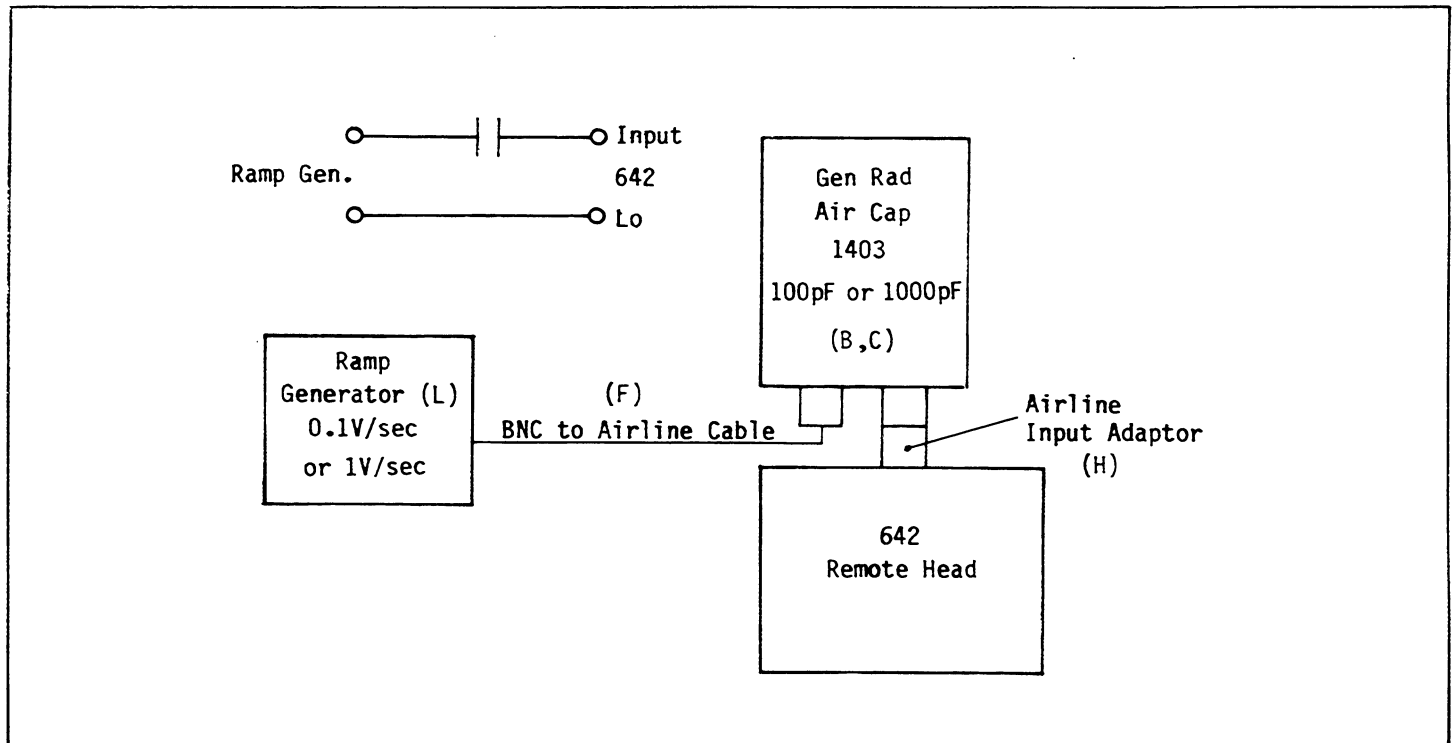

FIGURE 6-2. 10-9, 10-10, and 10-11A Current Sources Circuitry
b. Figure 6-2 shows how the ramp generator and capacitors should be connected to the 642.